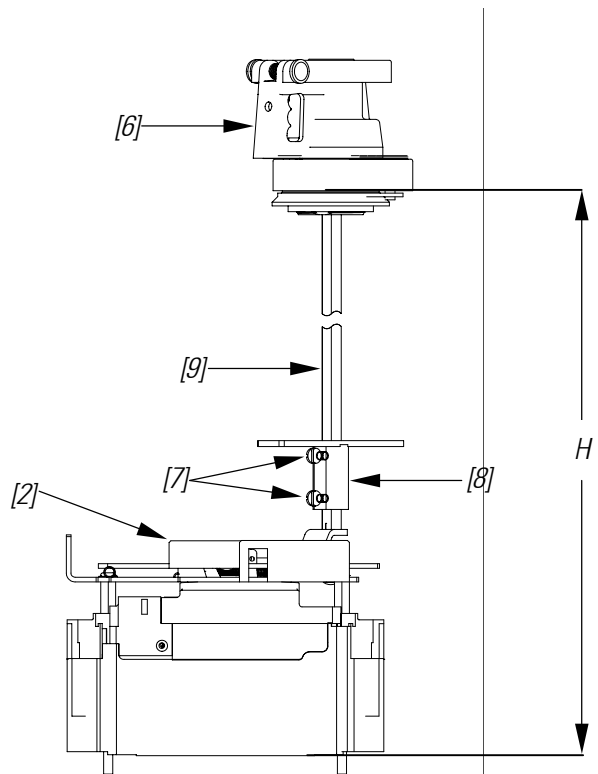

Figure 8. Measuring the box depth for kit FENRT.
- a. Measure the distance from the breaker-mounting surface to the rotary handle-mounting surface, H, as shown in Figures 8 & 13.